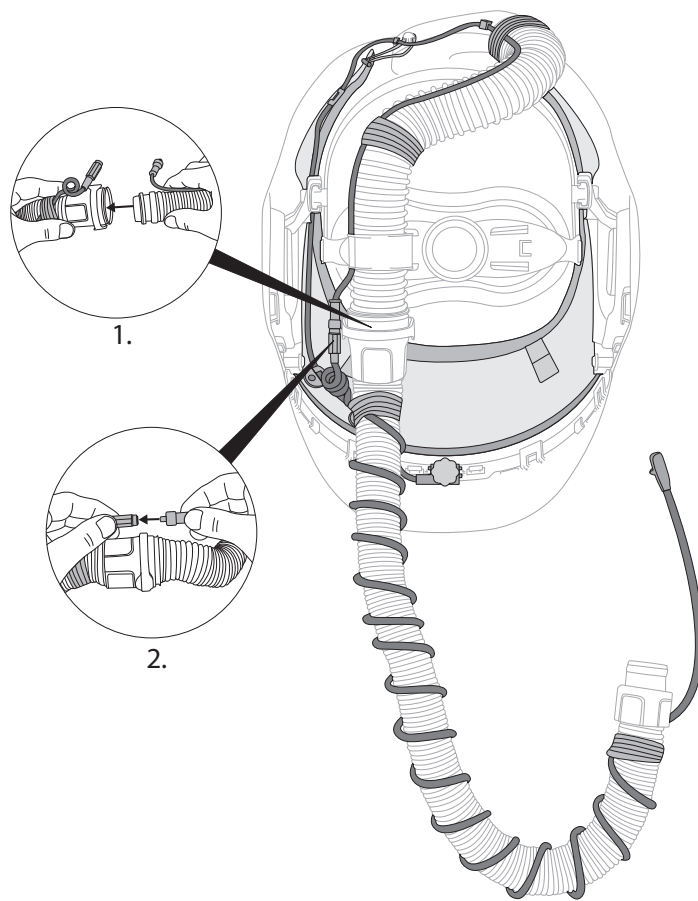

Fig. 31f
- vii. Plug the system breathing tube (using the QRS connector) into the welding helmet airduct tube. Connect the electrical fittings from the long cable (battery to welding helmet) to the short cable (welding helmet to task light) (Fig. 31f).